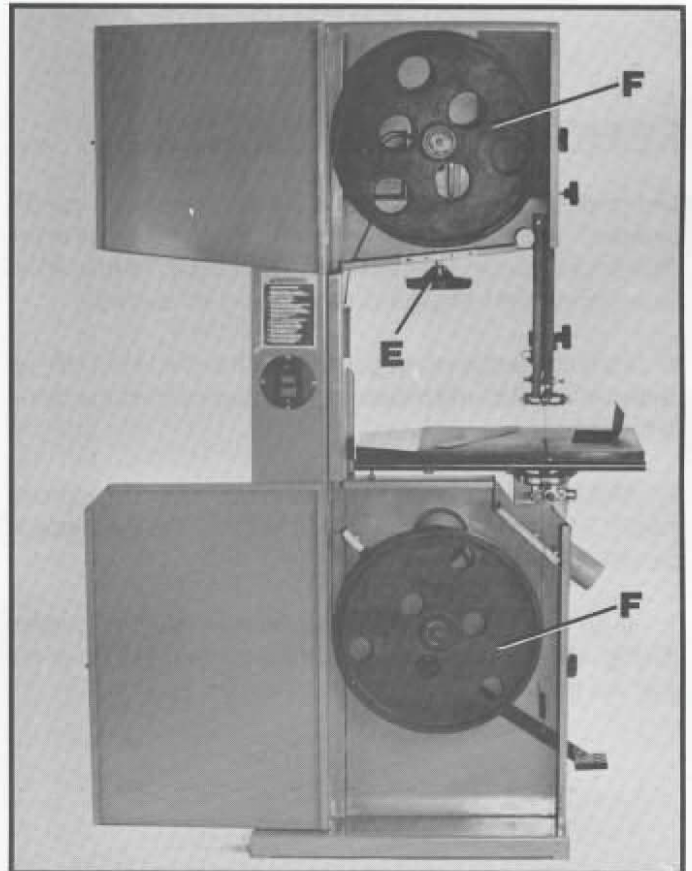

Fig. 26
4. Release tension on the blade by turning blade tensioning handwheel (E) Fig. 26.
5. Remove the blade from both wheels (F) Fig. 26, and guide it out through the slot in the table.